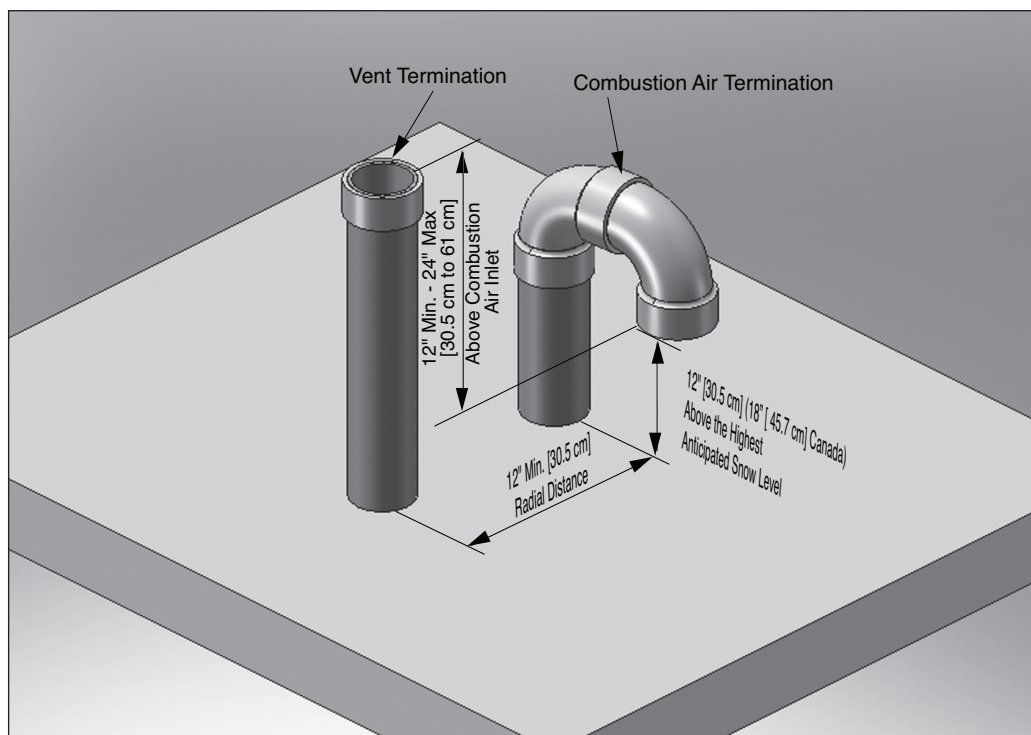

Fig. 1 - Direct Vent - Vertical Termination of Vent and Combustion Air Piping.
2. The combustion air piping must terminate in an upside down "U" shape fashion using two 90° elbows, as shown in *Fig. 1 on page 14*. The termination must be located 12" [30.5 cm] (18" [45.7 cm] Canada) above the highest anticipated snow level.
3. The vent piping must terminate vertically with a coupling to accept the bird screen and must be located 12" to 24" [30.5 cm to 61 cm] above the combustion air inlet as shown in *Fig. 1 on page 14*.
4. The vent and combustion air terminations must be located at a radial distance of 12" to 24" [30.5 cm to 61 cm] from centerline of vent termination to centerline of air termination as shown in *Fig. 1 on page 14*.
3. Locate the vent and combustion air pipe penetrations to provide clearances as described in **Fig. 1 on page 14**.
2. The combustion air piping must terminate in an up-side down "U" shape fashion using two 90° elbows as shown in *Fig. 1 on page 14*.
3. The vent piping must terminate vertically with a coupling as shown in *Fig. 1 on page 14*.
Do not extend the vent pipe above the roof beyond the dimensions shown in *Fig. 1 on page 14*. Extended exposure of the vent pipe could cause condensate to freeze and block the vent pipe, resulting in substantial property damage, serious injury, or death